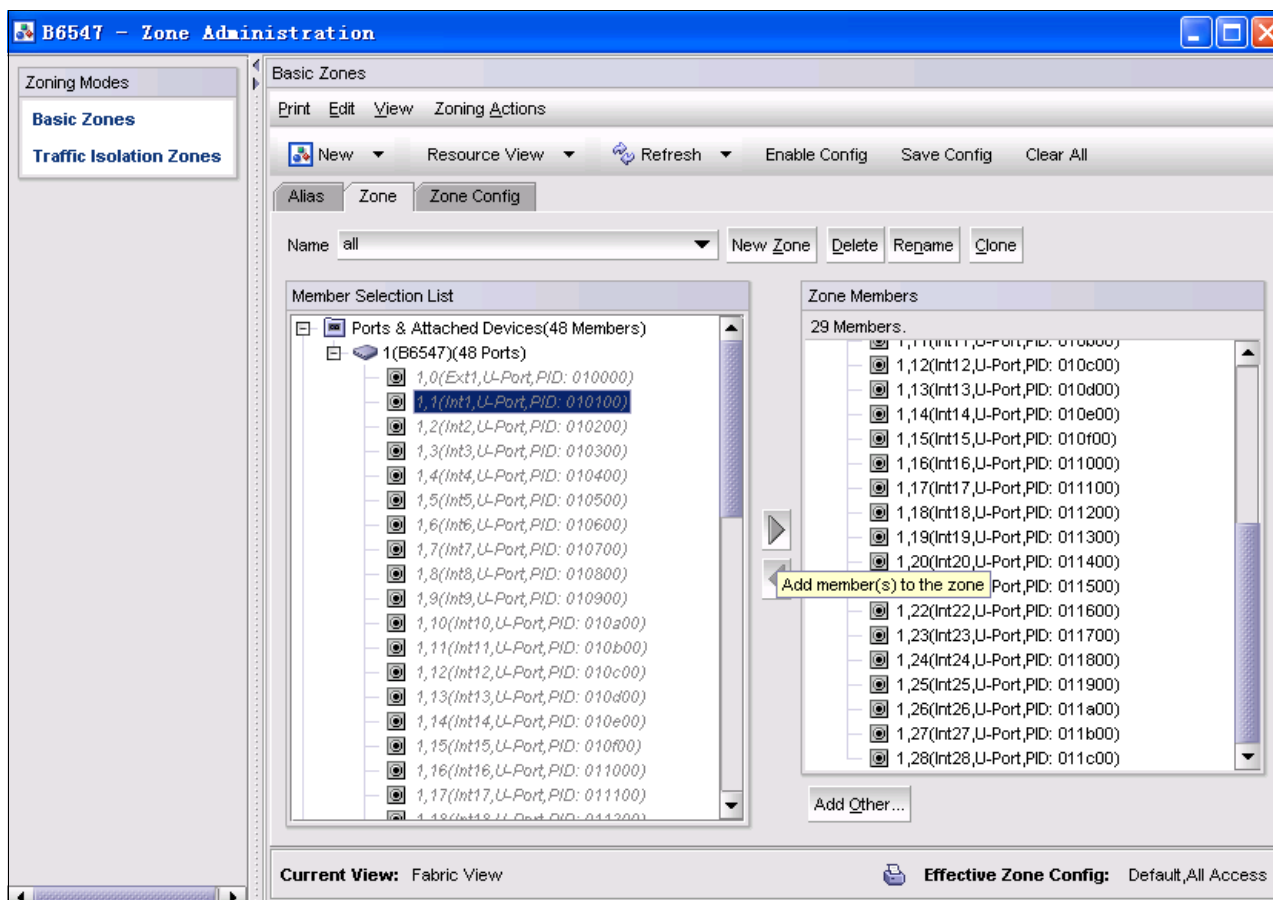

Figure 2-52 FC5022 Zone Administration
4. In the Task window on the left side of the interface, click **Zone Admin**. Add one new zone and place all of the ports into the zone, as shown in Figure 2-52.